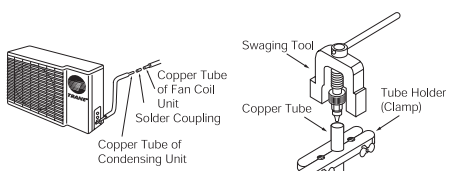

Figure 13
- Use a coupling between the copper tube of Fan Coil Unit and the copper tube used for installation (Figure 13).